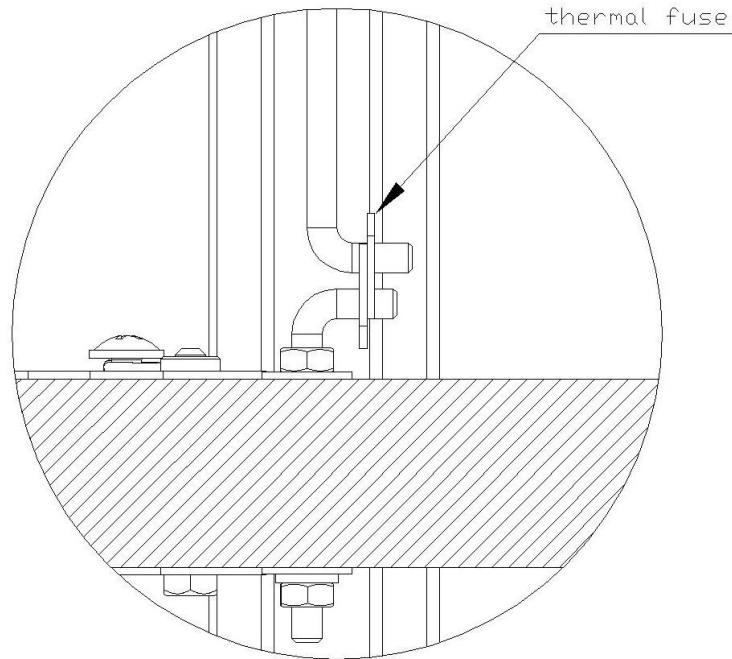

Figure 2. Thermal fuse installation method
- c. After the mortar has dried (about 48 hours), remove the supports or suspension, check the fire damper correct operation and leave it in open position (installing in KTM damper thermal fuse as shown on the fig. 2).
- After the mortar has dried (about 48 hours), remove the supports or suspensions, check the fire damper correct operation and leave it in open position (installing in KTM damper thermal fuse as shown on the fig. 2).
- After mounting the collar, remove the supports or suspension, check the fire damper correct operation and leave it in open position (installing in KTM-O-S damper thermal fuse as shown on the fig. 2).
- After mounting the collar, remove the supports or suspension, check the fire damper correct operation and leave it in open position (installing in KTM-O damper thermal fuse as shown on the fig. 2).